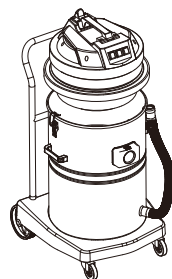

fig.2
2. Put the machine head on the machine body and make sure the power switch center in the machine head is aligned with center of square connector. Then fasten the two buckles to fix the machine body. (fig.2)